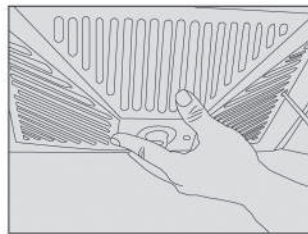
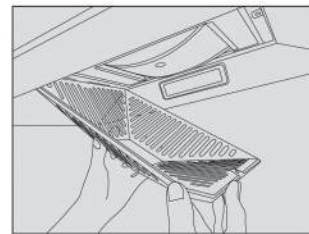

Fig. 2
Fig. 3
2. Unscrew (at the right side) the air intake cover assembly (Fig. 2) and turn the cover assembly to a certain degree with the left side as the axis. Subsequently, disassemble the air intake cover assembly by moving it toward the lower right side (Fig. 3);